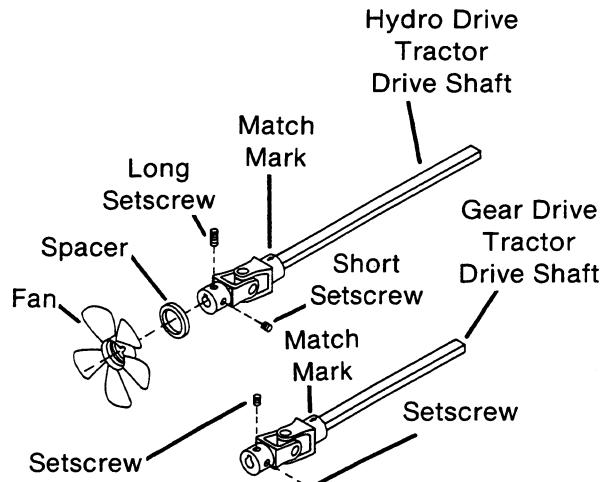

FIG. 5
J. (Gear Drive Tractors Only) Loosen two setscrews on rear of drive shaft. (Fig. 5)
(Hydro Drive Tractors Only) Remove one long setscrew thru notch in fan hub on rear of drive shaft. Rotate fan to expose second short setscrew, loosen setscrew. (Fig. 5)
NOTE: Drive shaft is a balanced assembly and must be reassembled the same way it was removed. Match marks (arrows) are stamped into both front and rear universal joints, if chalk marks are not made, to insure proper reassembly. (Fig. 5)